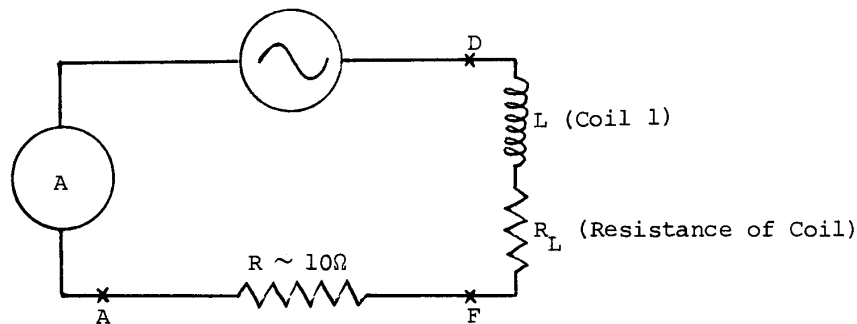

Figure 3.
2. Connect the following circuit (Figure 3) using the circuit board provided.